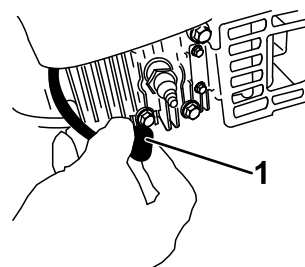

Figure 26
- Disconnect the spark-plug wire from the spark plug (Figure 26).